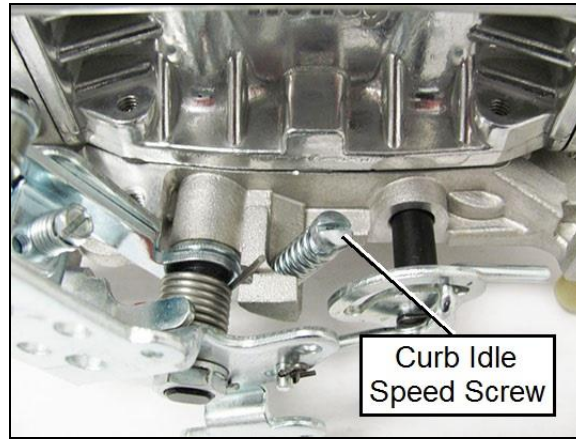

Figure 14
3. Now that the idle mixture is set, it may be necessary to go back and reset the idle speed using the curb idle speed screw, as shown in **Figure 14**.